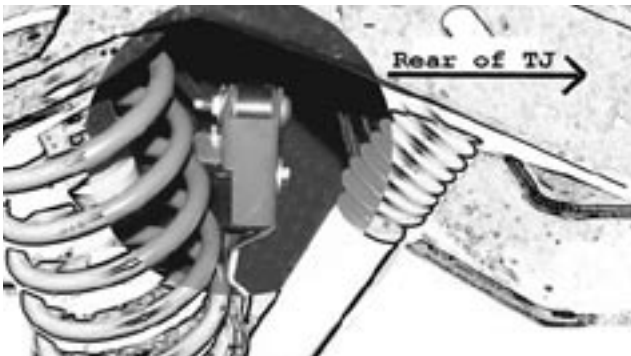

Figure 1
3. Hold the rear track bar bracket extension over the axle bracket positioned as show in Figure 1. Using one of the bolts (1/2" x 3" nc) and the spacer (1.5" x 1"OD x .5"ID) insert them in the hole vacated by the Torx headed bolt. Use the spacer to fill the spot the track bar once occupied. This will keep the bracket from collapsing when the new bolt is tightened.
4. With the track bar bracket in place, the two (2) smaller holes in the bracket should line up close to the holes in the axle bracket vacated by the plastic shield removed in Step 1.